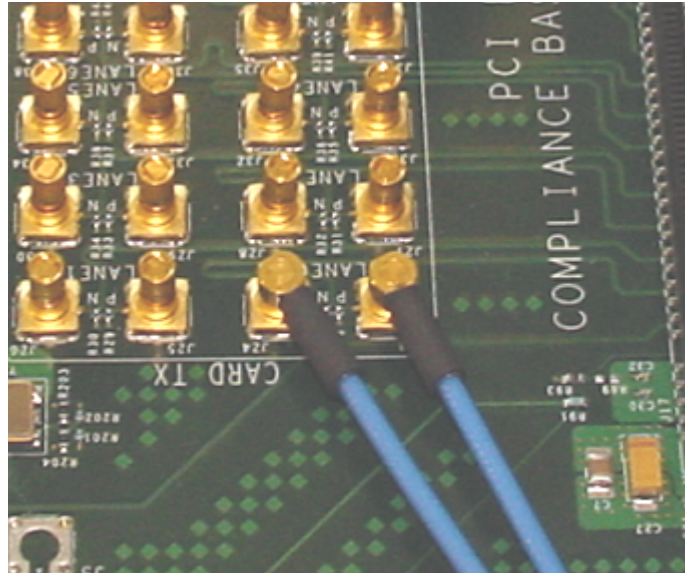

Figure 11 Compliance Base Board (CBB) 2.0 SMP Probing Option
- a Digital Storage Oscilloscope channel 1 to the D+ (where Lane 1 is under test in this example shown in Figure 11 above).
- b Digital Storage Oscilloscope channel 3 to the D- (where Lane 1 is under test in this example shown in Figure 11 above).